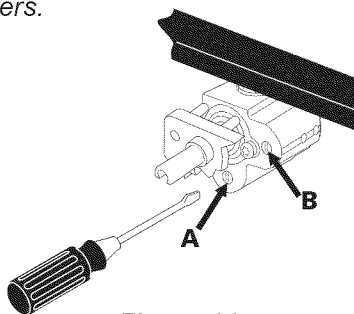

Figure 20
- e. The flame size on the rear portion of the bridge burner can be increased or decreased by turning screw **A**. Use screw **B** to adjust flame size of the center portion of the Bridge Burner (Figure 20). Turn the screw counterclockwise to increase flame size. Turn clockwise to decrease flame size. Adjust flame size until you can quickly turn the knob from LITE to lowest position without extinguishing the flame.